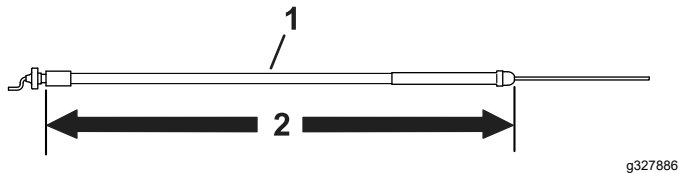

Figure 9
- Use the throttle cable that is 158.3 cm (62-3/8 inches) long for all models, but not for a model 04035, 04037, 04056, or 04060 traction unit; refer to Figure 9.